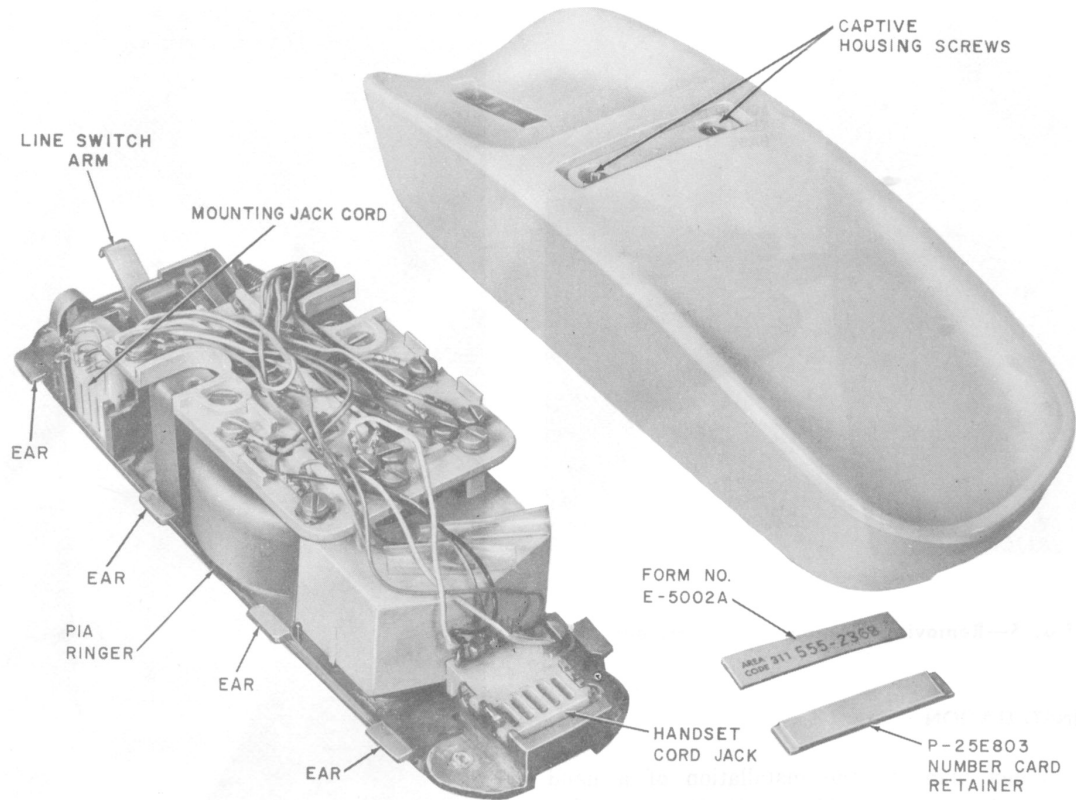
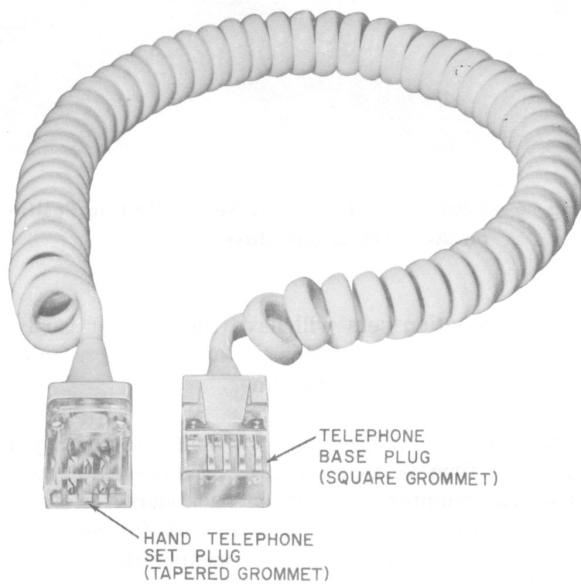

Fig. 3—Interior of AD1 Telephone Base
Fig. 4—H4DB Cord
- Equipped with jack (Fig. 3) to accommodate a plug ended handset cord (Fig. 4)